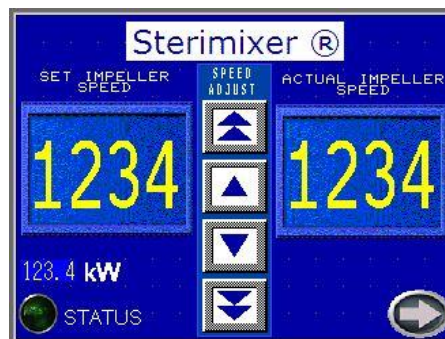

Figure 2: Operation Screen
1. Press arrow at bottom right hand corner of Operation screen, shown in Figure 2, until the Impeller selection screen appears.